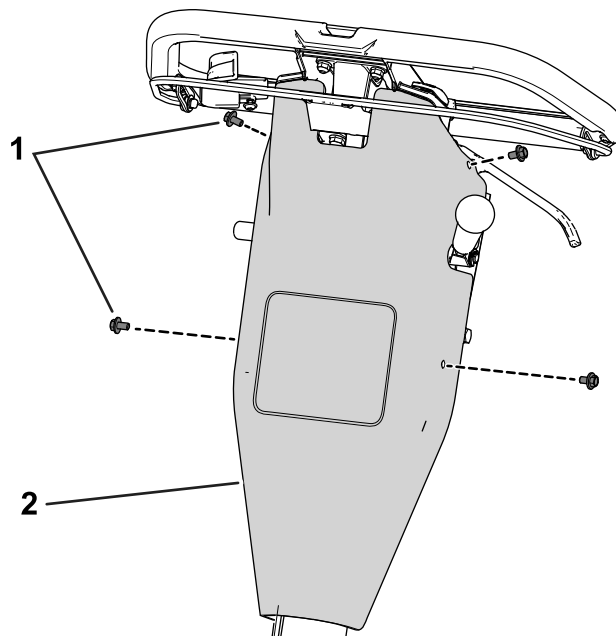

Figure 41
- B. Remove the control cover by removing the screws that secure the control cover to the rear panel (Figure 41).